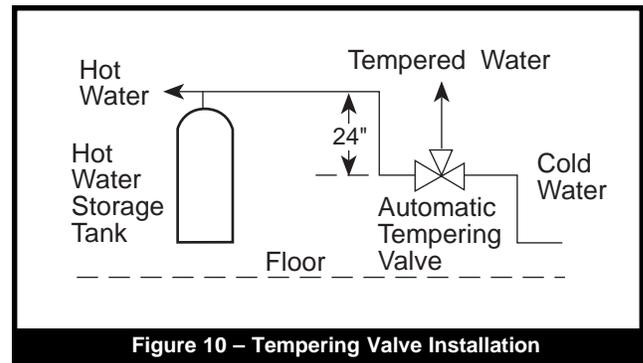

Figure 10 – Tempering Valve Installation
- When installing a tempering valve, place at bottom of antithermosyphon loop at least 24" high to prevent excessive hot water from entering mixed water supply. Bring the cold water supply up from the floor to the valve. (See **Figure 10**)